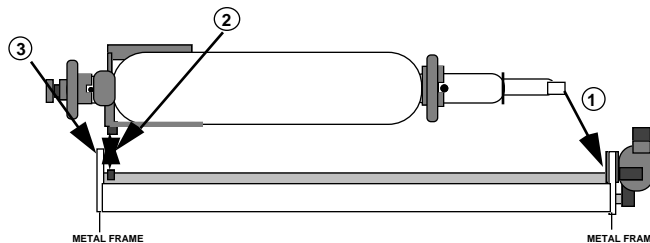

FIGURE 39
4. Slide the right side of the platen shaft into the bushing and lever (Figure 39, #1). Line up the tab on the paper-empty frame with the notch in the plastic frame (Figure 39, #2). Drop the left side into place (Figure 39, #3).